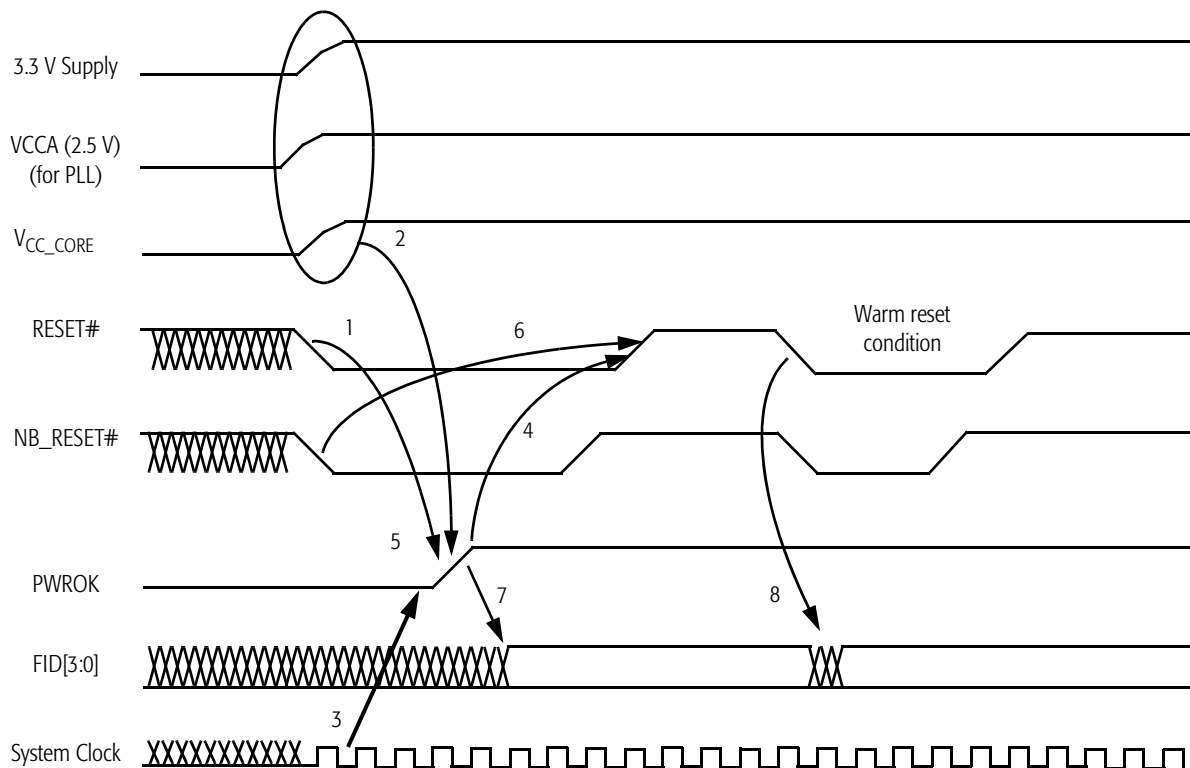

Figure 12. Signal Relationship Requirements During Power-Up Sequence
Figure 12 shows the relationship between key signals in the system during a power-up sequence. This figure details the requirements of the processor.
Notes: 1. Figure 12 represents several signals generically by using names not necessarily consistent with any pin lists or schematics.
2. Requirements 1–8 in Figure 12 are described in “Power-Up Timing Requirements” on page 40.